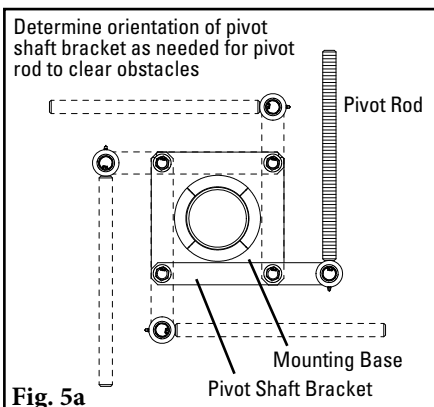

Fig. 5a
5. **Install the mounting bases.** Slide mounting base over pole end. Determine location of pivot shaft bracket and orientation of pivot rod, but do not install at this time (Fig 5a). Bolt mounting base assembly to chute wall with 2 of the bolts provided on the side opposite the location where the pivot shaft bracket will be installed (Fig. 5b). Install pole bearings with hammer. Gently tap until bearings are fully seated against mounting plate. Repeat on opposite side.